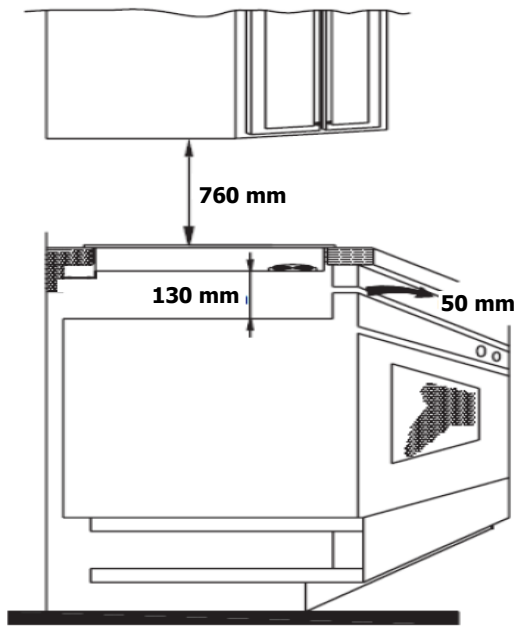

Fig. 2
- For operational purposes it is best to ensure there is sufficient ventilation available. As shown in the diagram below. (Fig. 2)